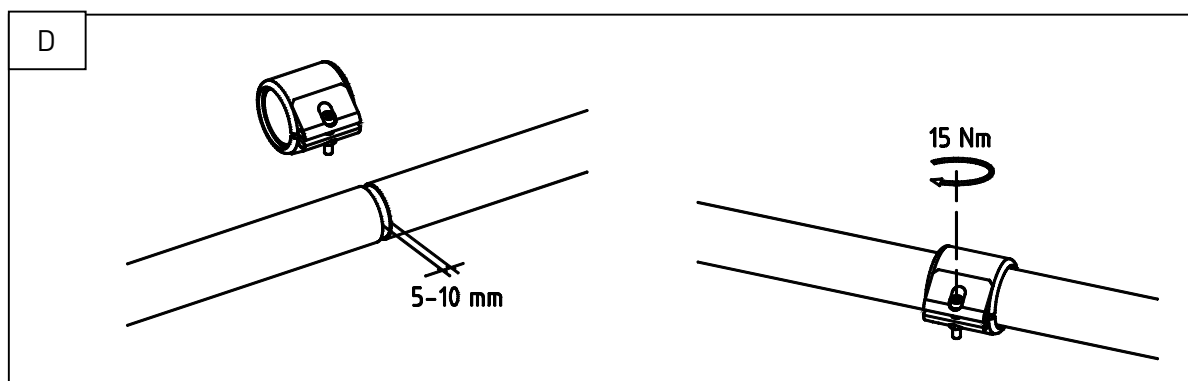

Figure 9
- D) Connect the cooling piping, see Figure 9
Only the couplings illustrated in Figure 9 above (STRAUB – GRIP – L\_) may be used for pipe connections.